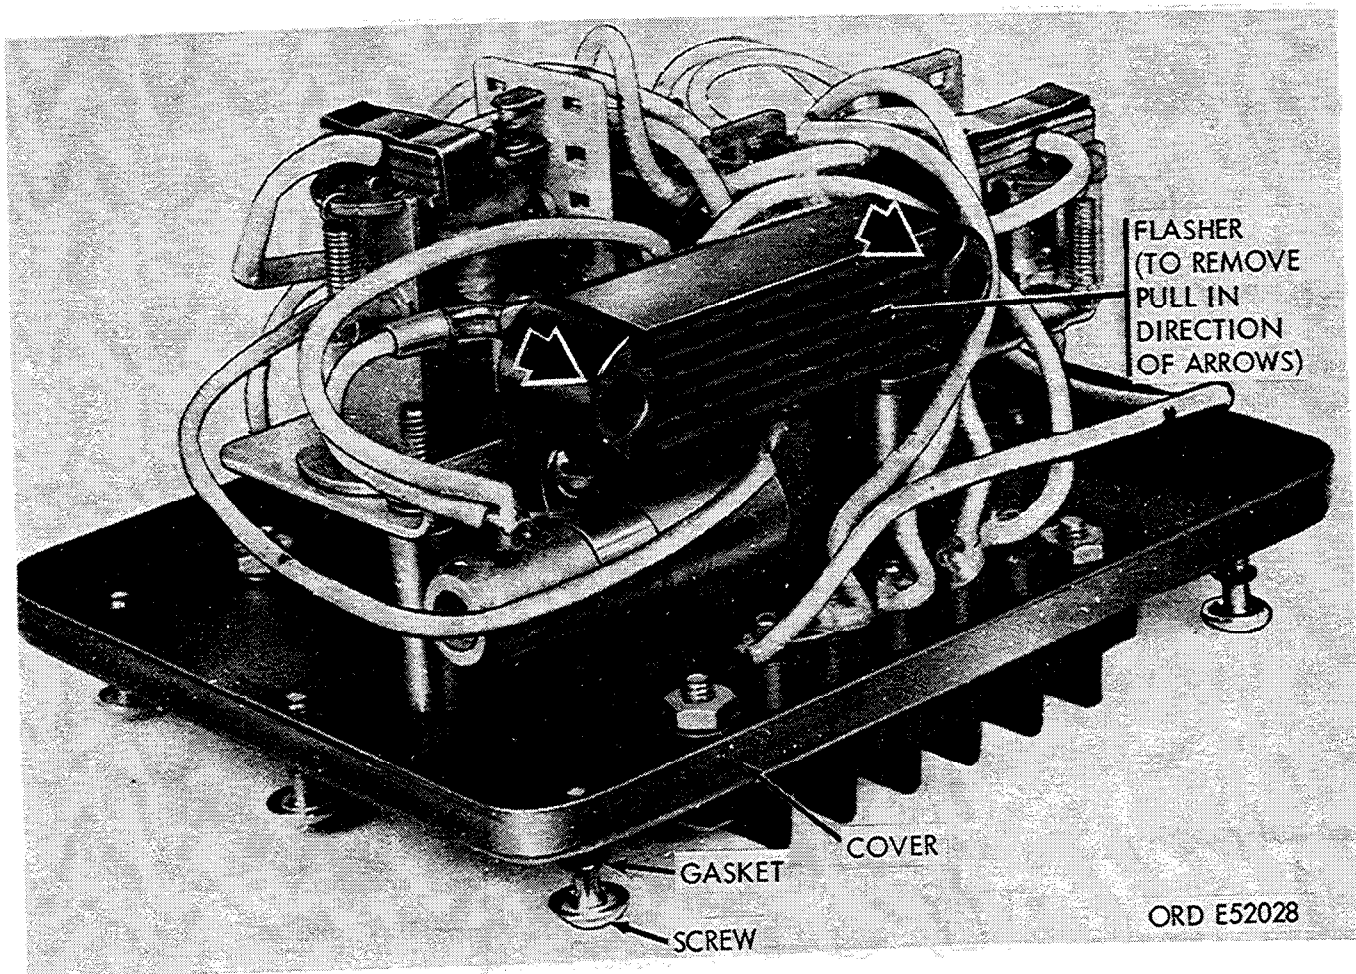

Figure 2-64. Turn signal flasher.
a. Perform operations in paragraph (2-47 a (1) through (3) and 2-47 b (2).
b. Pull flasher outward (fig. 2-64) and remove from unit. Check to see that terminals are clean and all wires are secure and connections are tight. Install new flasher unit.